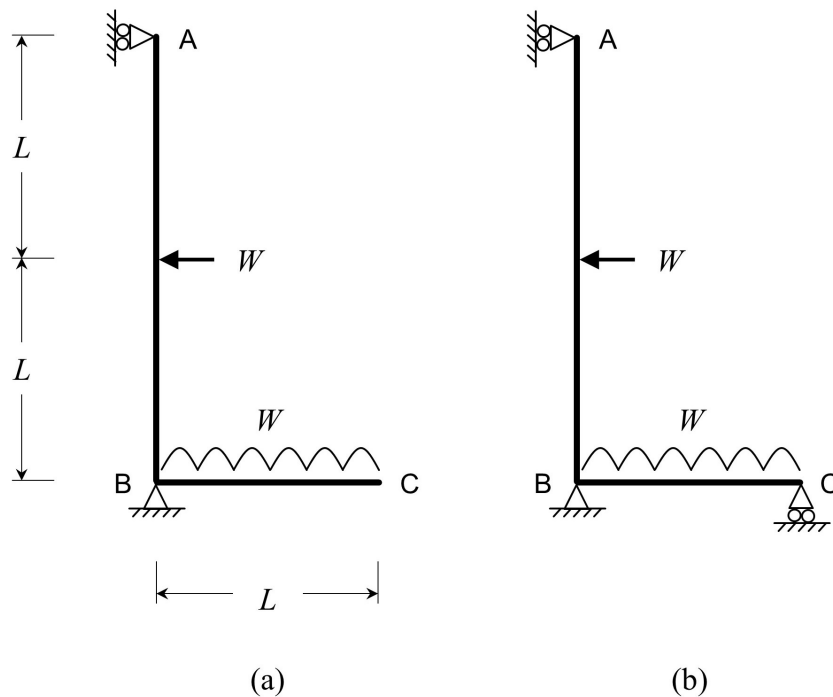

Fig. 6
A simply supported L-shaped elastic beam is shown in Fig. 6(a). The beam has second moment of area I and Young's modulus E . The beam is subjected to a horizontal point load of magnitude W in the middle of span AB and a vertical load of magnitude W distributed uniformly over span BC.
- (c) A roller support is added at point C as shown in Fig. 6(b), rendering the structure indeterminate. Determine the magnitude of the vertical reaction provided by the roller support at C. [10]